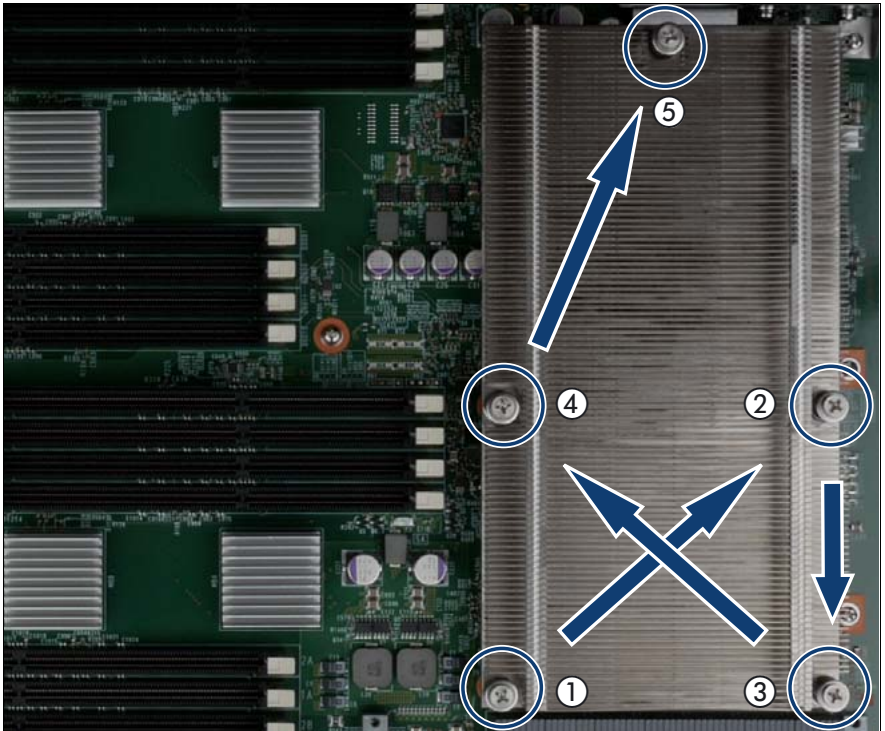

Figure 127: Installing the heat sink
- Start with screw 1 to screw 5 as indicated in figure 127 and continue with screw 1.